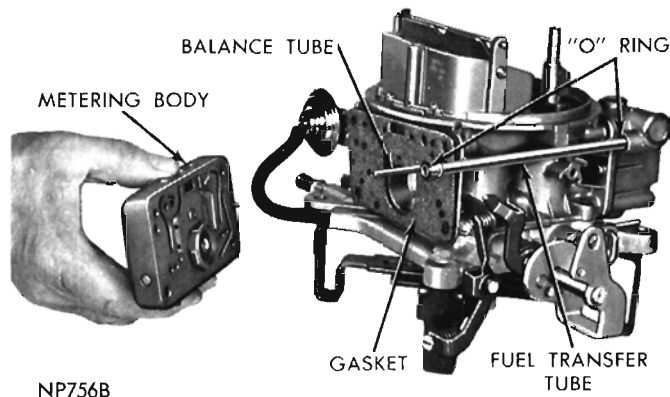

Fig. 3—Removing or Installing Primary Metering Body and Plate
(1) Install new idle mixture adjusting needle gaskets and then install needles finger tight. Back off one full turn for approximate adjustment (Fig. 3).